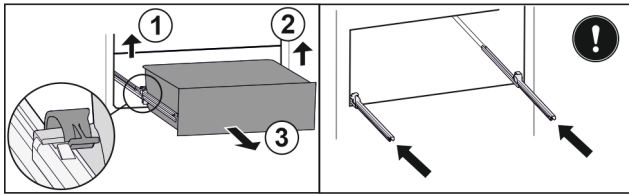

Fig. 150
- Lift left clamp and simultaneously pull drawer forwards on the left. Fig. 150 (1)
- Lift right clamp and simultaneously pull drawer forwards on the right. Fig. 150 (2)
- Remove drawer to the front. Fig. 150 (3)